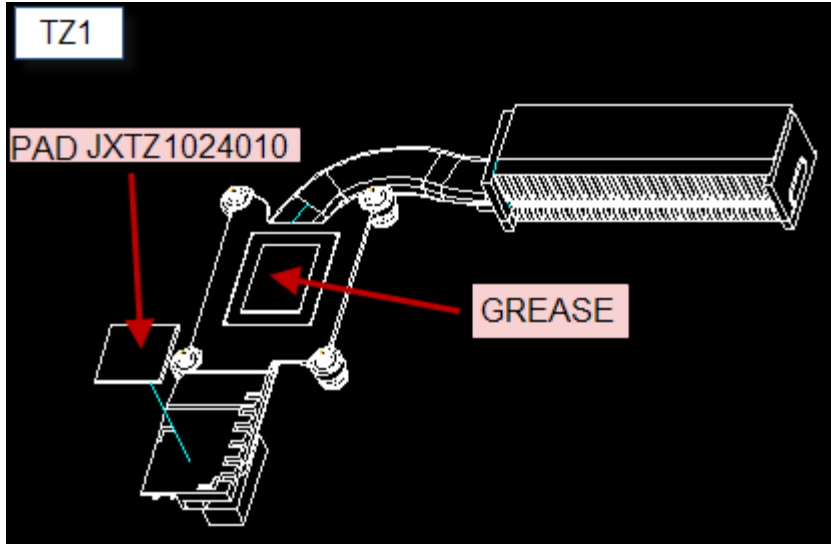

Figure 4-17-1 Intel &AMD Thermal pad on North Bridge
4.17 Application for Thermal pad and grease on CPU, North Bridge, and VGA board (see Figure 4-17-1 to 4-17-3)